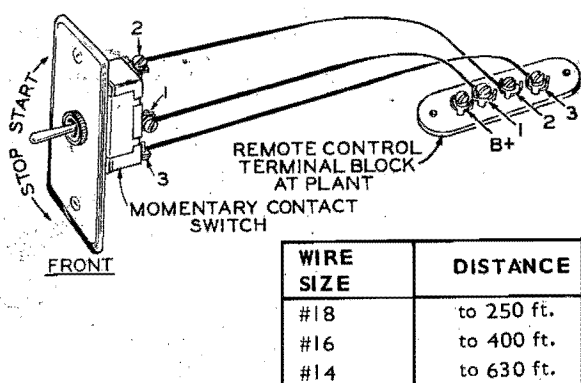

FIGURE 6. REMOTE CONTROL WIRING
For remote control of starting and stopping, use three wires to connect a remote switch (SPDT, momentary contact, center-off type) to the terminal block marked B+, 1, 2, 3 in the set control box (Figure 6). Use correct wire size according to switch distance from set.
- Remote Start-Stop Switch:** For starting and stopping from truck cab or other point, install a switch as described for a standard unit (see Figure 6).